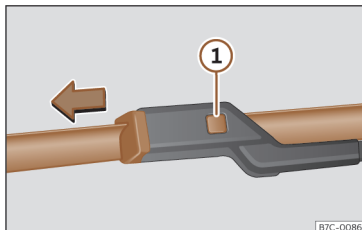

Fig. 145 Changing the windscreen wiper blades
- Press and hold release button >>> Fig. 145 ❶ and pull gently on the wiper blade in the direction of the arrow.